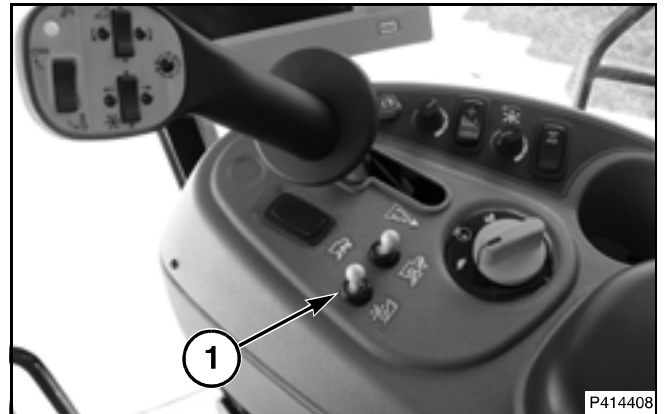

FIG. 8
FIG. 8: Since the header countershaft is driven from the beater shaft, the threshing mechanism must be engaged before the header and the feeder can be operated. A switch (1) on the console engages and disengages the header and feeder drive through an electromagnetic clutch.